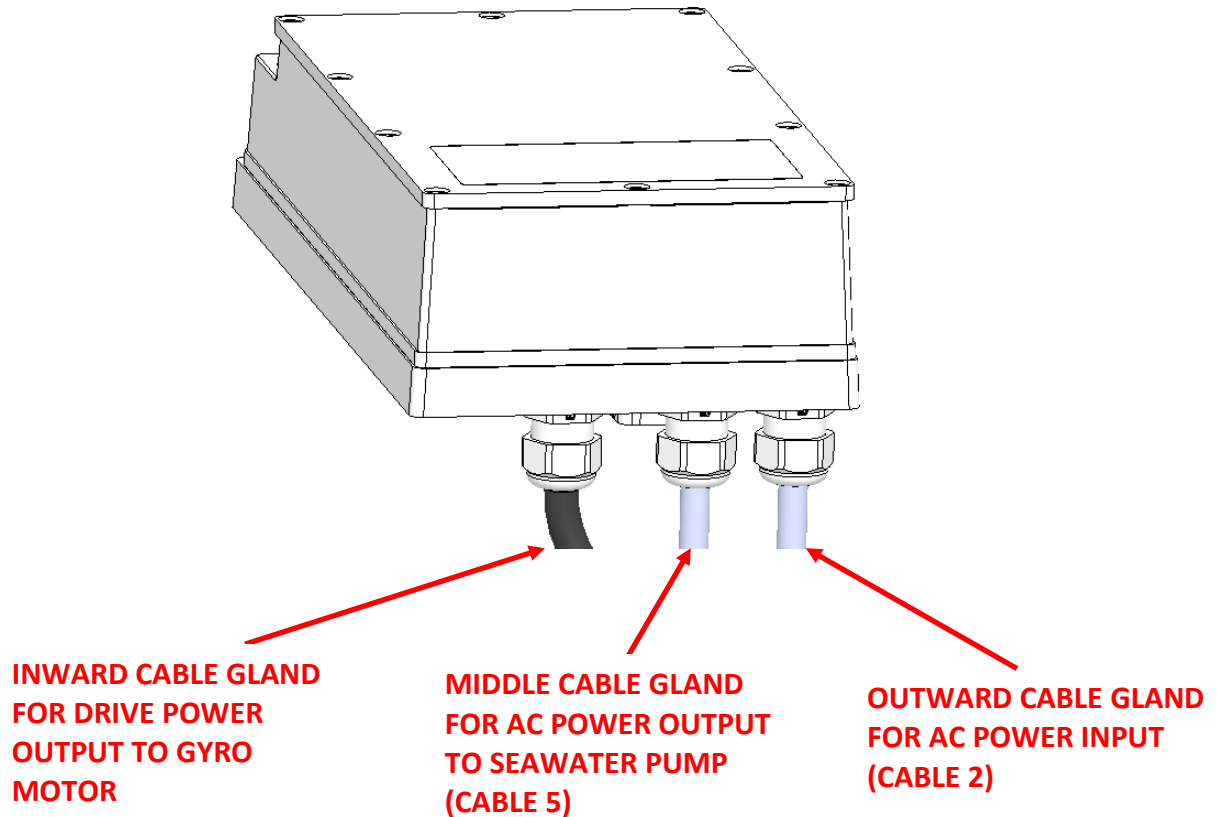

FIGURE 2 – DRIVEBOX AC POWER INPUT & OUTPUT CABLE GLANDS
- i. Locate CABLE 5 for AC power output to the Seawater Pump from the Drive Box at the middle of three cable glands. (See Figure 2.)
- i. Locate CABLE 5 for AC power output to the Seawater Pump from the Drive Box at the middle of three cable glands as shown in Figure 2.